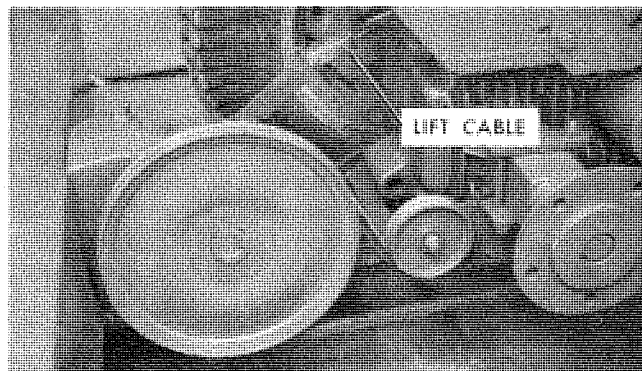
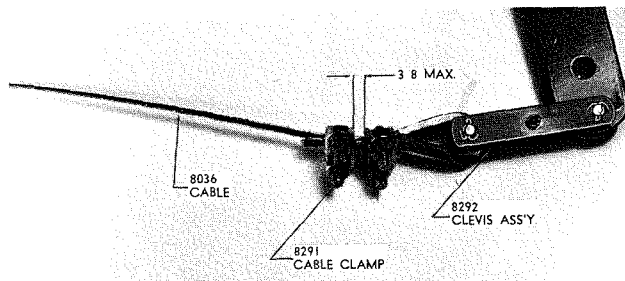
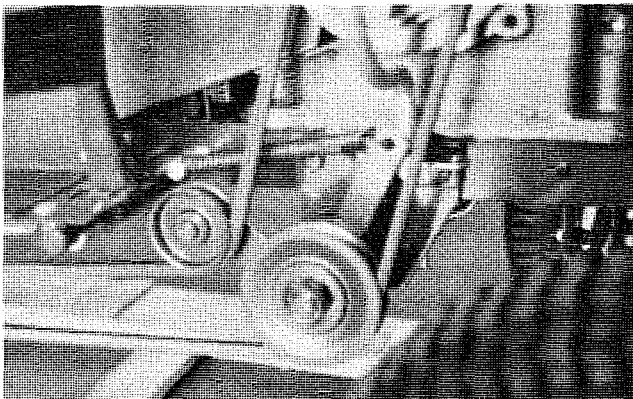

Fig. 3. Lift Cable Attached
Fig. 4. Lift Arm Connection
Fig. 5. Idler Spring Installation
Attach the rear end of the lift cable to the tiller as shown in Fig. 3. Block the tiller up until it is tight against the transmission case. Insert the thimble (91) into one end of the clevis assembly (93) and secure with a clevis pin and cotter pin. Fasten the remaining end of the clevis assembly to the tractor lift arm as shown in Fig. 4.
Wrap the cable around the thimble and remove all slack. Secure with the cable clamps. Place one clamp directly behind the thimble and the other  $\frac{3}{8}$ " maximum away as shown in Fig. 4. Cut off any excess cable.
Using the hole in the frame in front of the brake pedal, attach a  $\frac{3}{8}$ -16 x  $2\frac{3}{4}$  bolt and two  $\frac{3}{8}$ -16 nuts, one nut on each side of the hole. Connect one end of the idler spring (84) to the shank of the bolt and the other end to the front idler. See Fig. 5.
Route the belt over the front idlers as shown in Figs. 5 and 6, with the belt in the largest diameter engine pulley groove. Continue with the belt beneath the axle and around the pulleys as shown in Fig. 3. Sufficient belt tension will be provided by the spring loaded idler. Shift the quick hitch assembly as necessary to align the belt with the inner groove of the clutch pulley, then tighten the quick hitch mounting bolts.